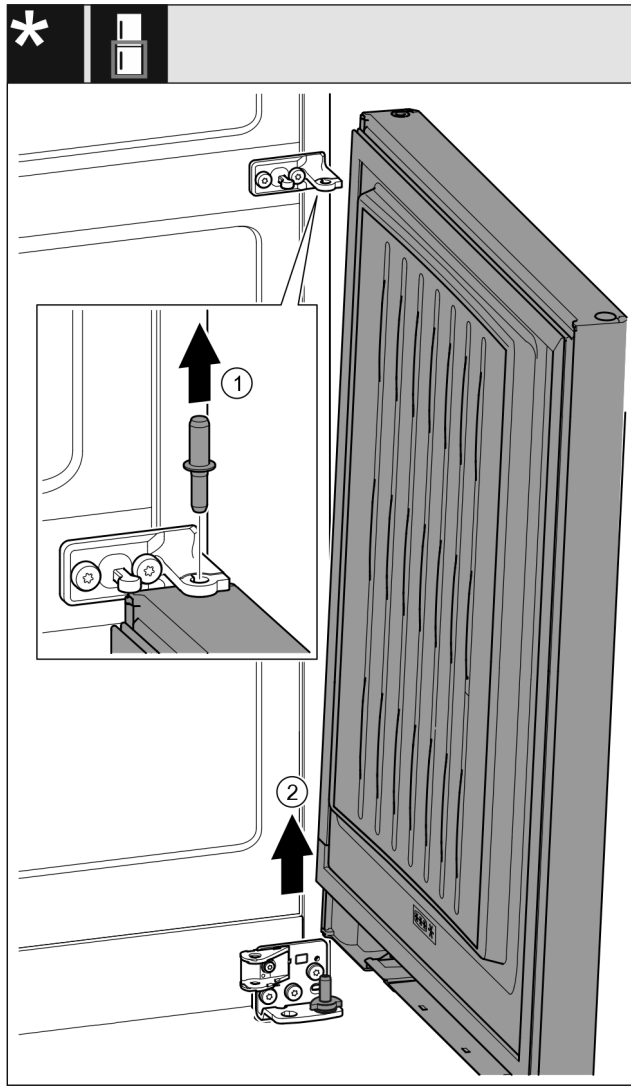

Fig. 21 \*
- Pull out the bolts toward the top. Fig. 21 (1)\*
- Swing the door out, pull it upward and set it aside. Fig. 21 (2)\*